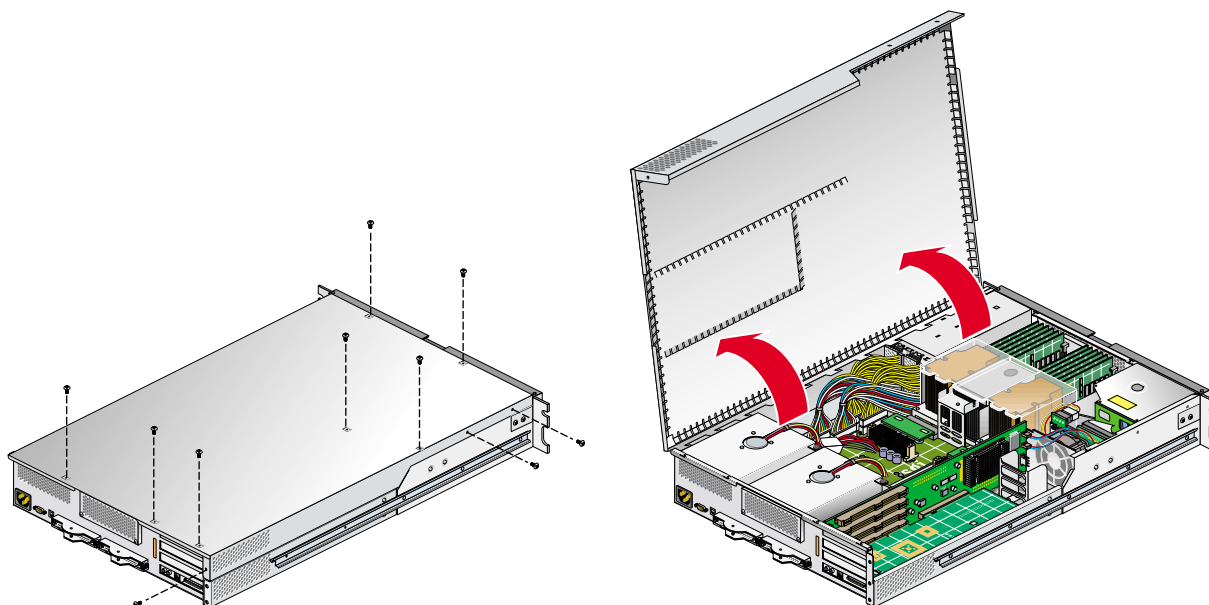

Figure 4-35 Opening the Module to Access the L1 Controller Display
5. To access the area where the L1 display is replaced, remove the ten Phillips screws shown in Figure 4-35, and lift and open the hinged cover.